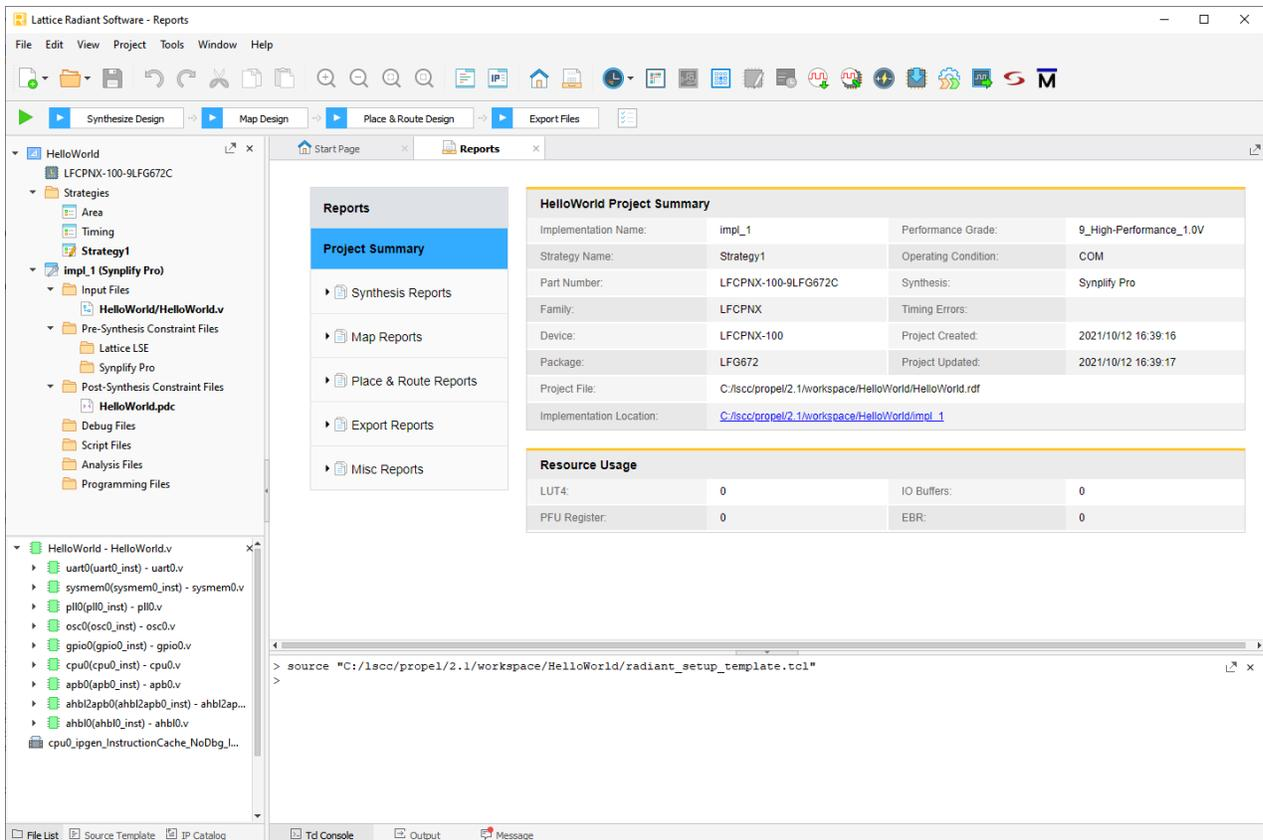

Figure 2.61. Radiant Project
- b. Lattice Radiant is launched with a Radiant project generated for SoC at background (Figure 2.61).